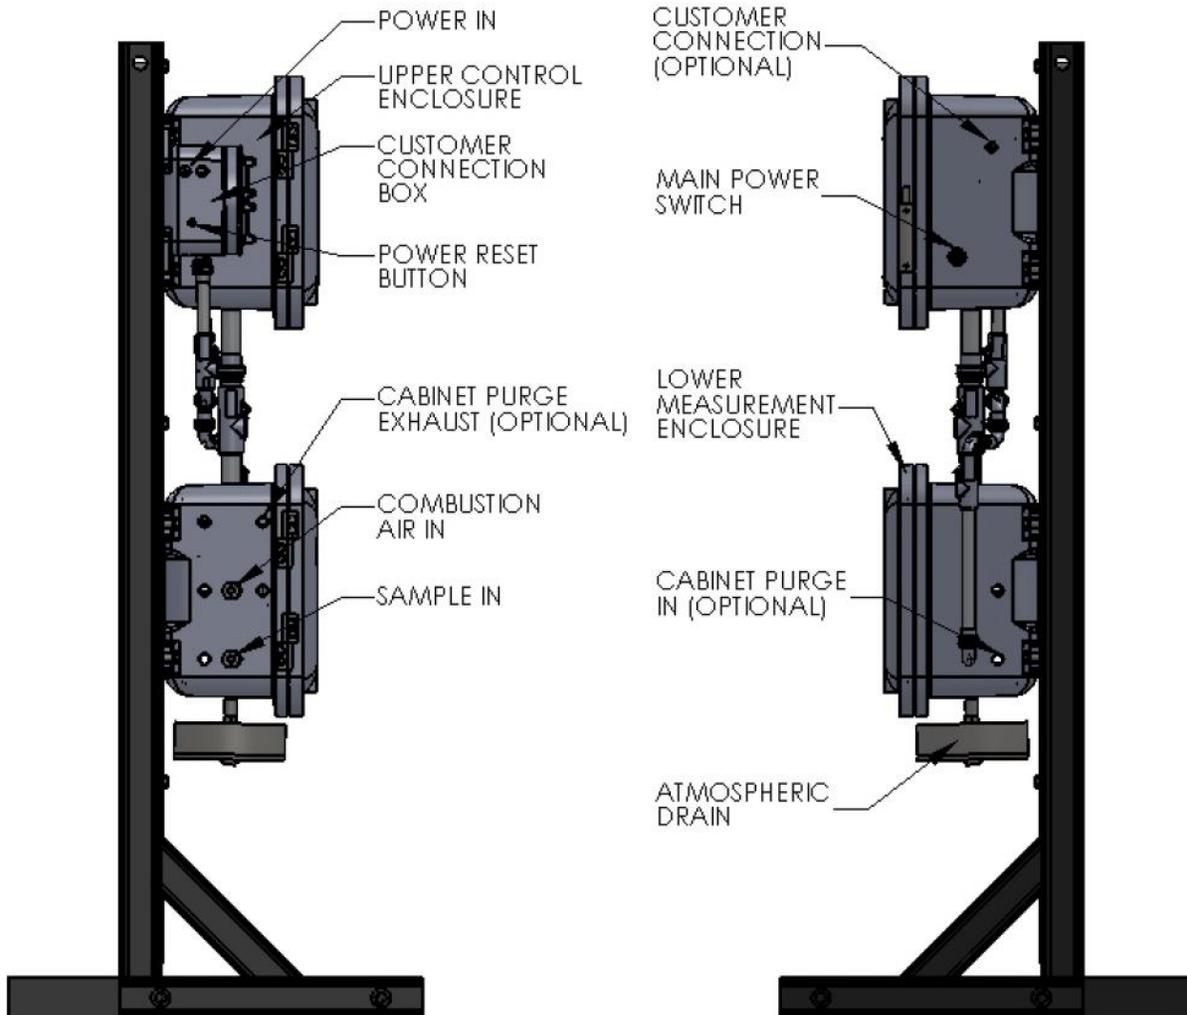

Figure 3-2: Left and Right Side Views
The P-500 Flash Point Analyzer incorporates fittings for connecting process sample and combustion air lines. These fittings are located on the left side of the instrument (see Figures 3-2).
The P-500 sample inlet is located on the left side of the analyzer's measurement enclosure. This line should be connected to the 1/4-inch NPT fitting labeled "Sample In" (see Figure 3-2). Process samples should be provided at a pressure between 1.4 and 10 bar (20 and 145 psi) at a flow rate of 10 to 50 cc/min. The temperature of the sample should be at least 5°C (9°F) below the expected flash point temperature and no more than 35°C (63°F) below the expected flash point temperature while remaining under the maximum process temperature of 100°C (212°F).
Clean, dry instrument air is required for proper analyzer operation. It should be supplied to the analyzer at a controlled flow rate between 100 and 500 cc/min. The instrument air line is connected to the 1/4-inch NPT fitting labeled "Combustion Air" (or to the pressure regulator) on the left side of the measurement enclosure (see Figure 3-2).
The P-500 Flash Point Analyzer requires an independent 110-120 or 230-240VAC ($\pm 10\%$), 50/60Hz power supply. The system is jumper selectable 110-120/220-240VAC ($\pm 10\%$) 50/60 Hz, single phase, 5A. AC power connections are made through the Customer Connections box attached to the upper left of the top enclosure (see Figure 3-2).
7. Place the Power Switch on the right side of the electronics enclosure (Figure 3-2) in the ON position.